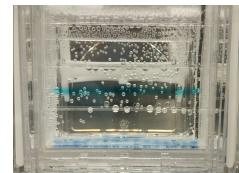

Figure 4: Gel When Stopped
In direct contrast to our last two experiments, the analysis PAGE gel of this experiment provided us with useful results with accurate single base pair resolution. This is made evident by the three samples of Custom Ladder that were added to wells 2, 13 and 14. Moreover, the 26mer and 25mer were separated in adjacent wells similarly to the way the 26mer and the 25mer were separated as part of the Custom Ladder in the same well. This is important because it allows us to (1) compare multiple bands *inside the same well* and (2) compare multiple bands *across multiple wells*. This is likely due to the lack of smiling and the long run time. See Figure 5 is a picture of our gel mid run (after about 40 minutes). Throughout its run, the gel did not appear to have exceedingly different run rates for different gels. Moreover, the gel was run for a total of three hours and 10 minutes. It was stopped once the loading dye reached the bottom of the gel, see Figure 4 for future reference.